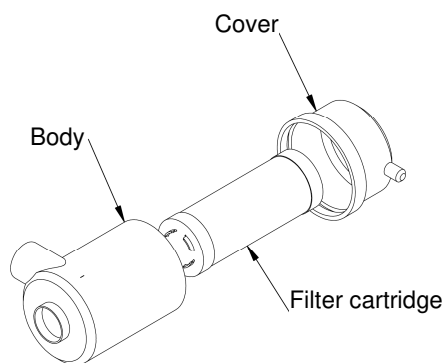

Fig. 15 Replacement of the air filter cartridge in the compressors with motor power from 75 kW to 315 kW.
- Check that the system has been emptied by slowly unscrewing the oil filler cap (use protective clothing) (Fig.15). The compressed air can be hot.